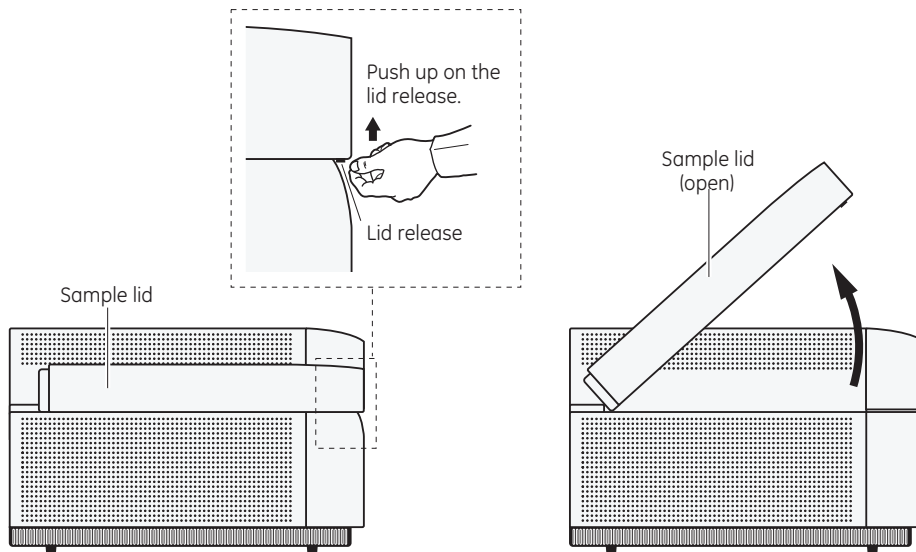

Fig 8-1. Opening the sample lid.
- 1 Push up on the lid release under the center front of the sample lid until the lid opens (fig 8-1).